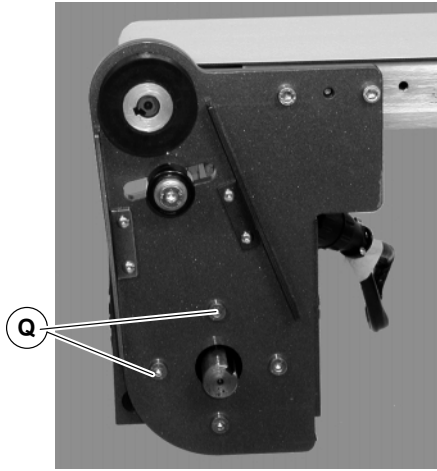

Figure 15
7. Remove four (4) gearmotor mounting screws (Q of Figure 15). Remove gearmotor with adapter plate.
9. Install new gearmotor to adapter plate and mounting bracket. Tighten screws (Q of Figure 15) to 103 in-lb (12 Nm).